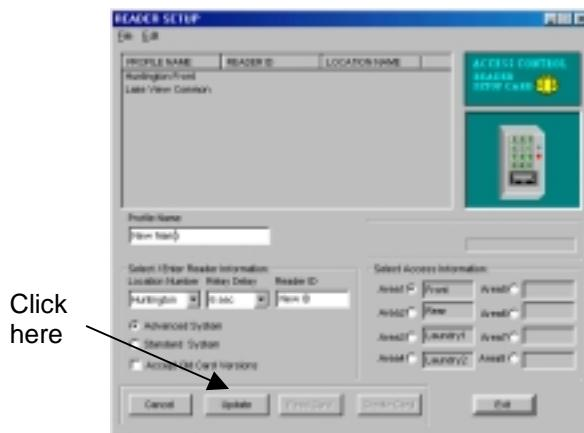

Figure 11.39 Completing the Cloning Process
3. Click the Update button to save the new Reader Setup Profile (Figure 11.39).